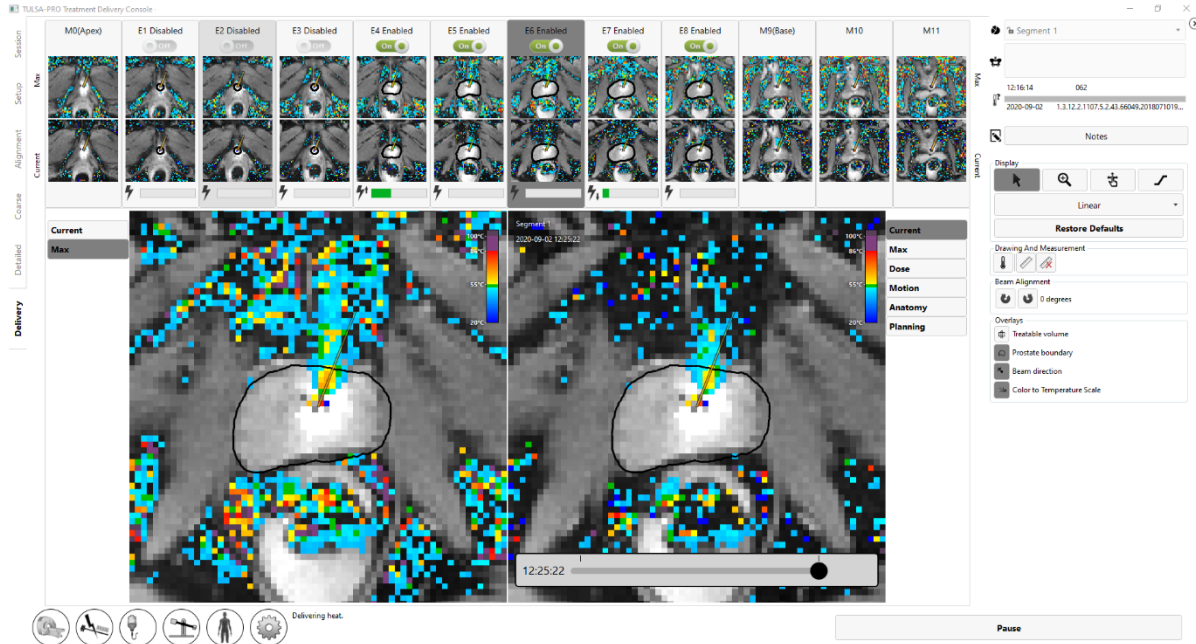
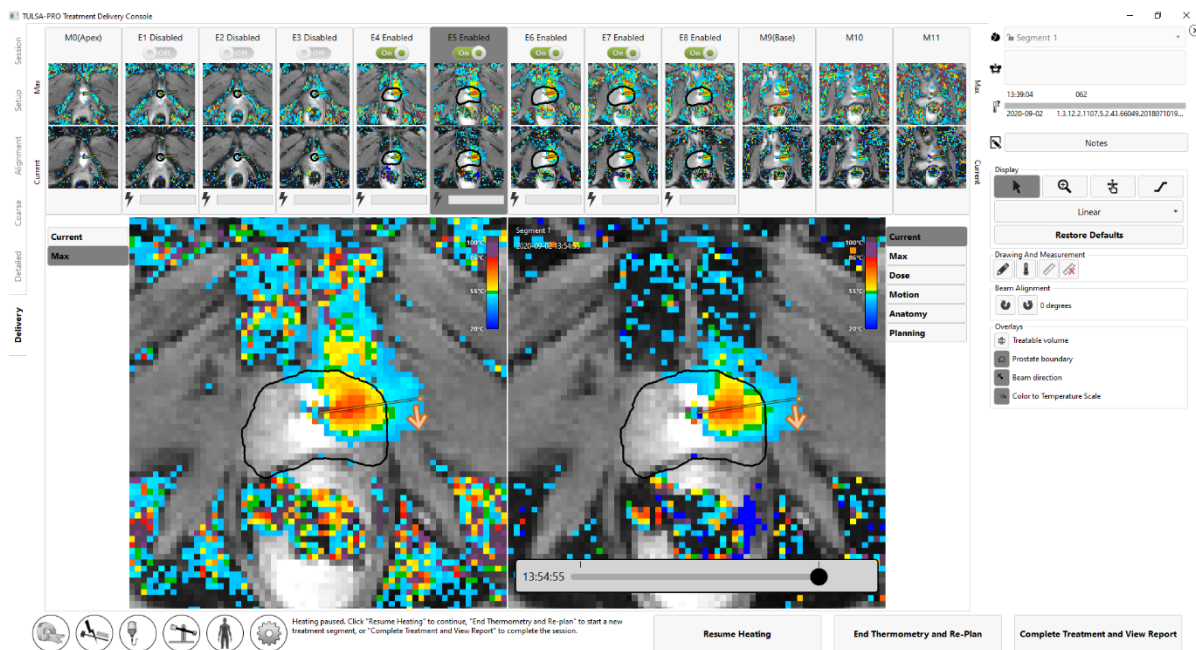

Figure 43: Ultrasound heating has begun
Figure 48: Delivery workspace with treatment and heating paused
**Radiologist:** After receiving 25 thermometry dynamics, heating begins (*Figure 43*). Throughout the ablation, actively monitor real-time treatment images on all slices, ensuring that:
Radiologist: At any time during Delivery, click **Pause** in the bottom-right corner of the screen (see Figure 43). While in the paused state, all heating from the UA is suspended while thermometry acquisition continues (Figure 48).